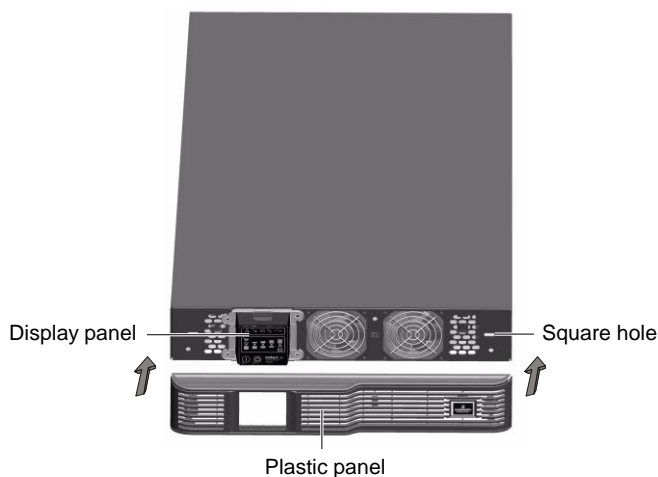

Figure 2-3 Installing plastic panel
2) Align the plastic panel with the UPS display panel, and gently press the metal buckles on both sides of the plastic panel into the square holes on the UPS front panel according to the direction shown in Figure 2-3.